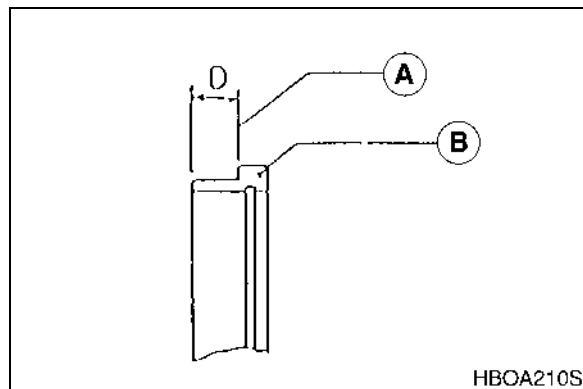

Figure 99
4. Obtain "D" dimension of gear holding flange (3) (Figure 99).